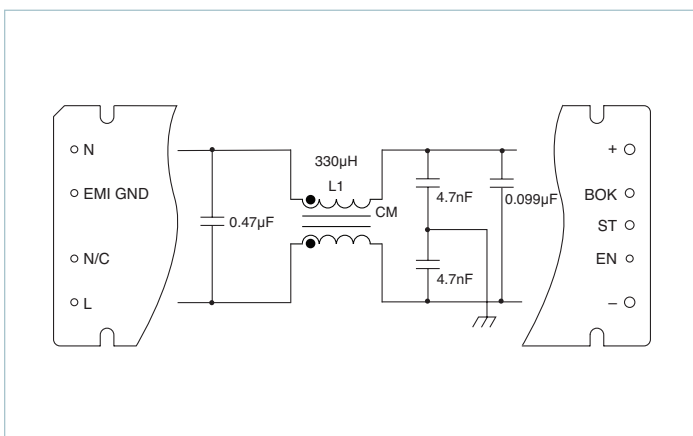

Figure 8.6 — Internal filter
**Filter:** (Figure 8.6) An integral input filter consists of a common-mode choke and Y-capacitors (line-ground) plus two X-capacitors (line-line). This filter configuration provides common-mode and differential-mode insertion loss in the frequency range between 100kHz and 30MHz.